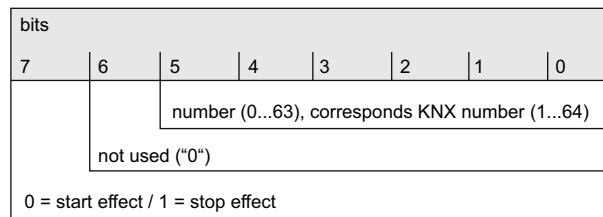

Figure 54: Structure of the object value for the effect extension
The structure of the telegram value for the effect extension is orientated to the KNX DPT 18.001, which is also used in the scene extension (Figure 54).
- ⓘ It should be noted that the object value of the extension input is always "1" less than the configured KNX number, in accordance with KNX DPT 18.001 (Figure 54).